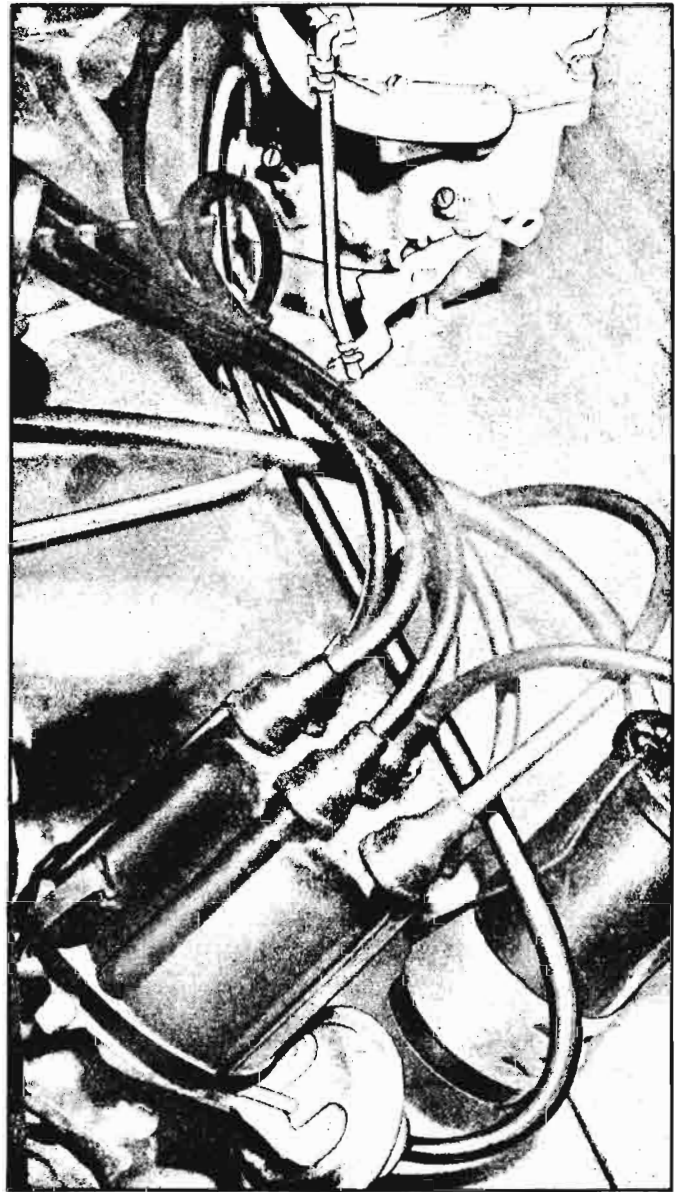

Fig. 9-27—Vacuum Advance Line
1. Install insulator block in place, install carburetor on intake manifold studs. Install two attaching nuts and washers and tighten evenly (fig. 9-16). On right carburetor, replace vacuum advance line (fig. 9-27) with other end to distributor advance. On the left carburetor, the vacuum port tube is capped with a plastic cap (fig. 9-1).